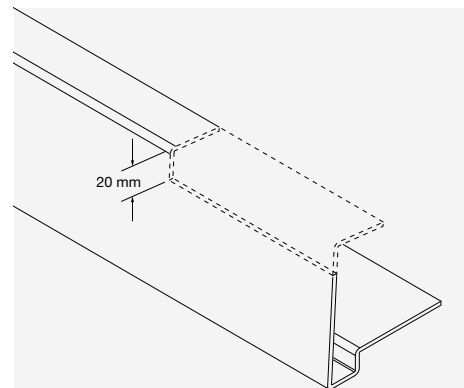

Fig. 12 – Cut away section at ridge
- 3 At the ridge apex, allow a 10mm expansion gap at the mitred joint between the verge extrusions. Cut away the top flange and 20mm depth of the side wall (Fig. 12) to accommodate the ridge tile (and dry ridge batten section, if appropriate).
- 4 The horizontal flange of the extrusion is pushed between the top of the wall (or gable ladder) and tiling battens along its whole length. Ensure the bottom end lines up with the leading edge of the eaves tiling course (Fig. 12).